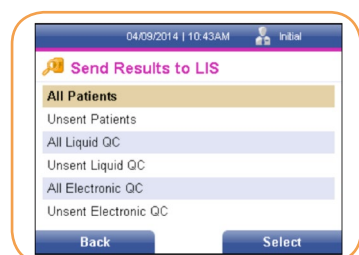

FIGURE 94
2. Using the [↓] key, cursor to the Send Results (LIS) text field, then press the right soft key to select it. The *Send Results to LIS* screen is displayed (Figure 94).